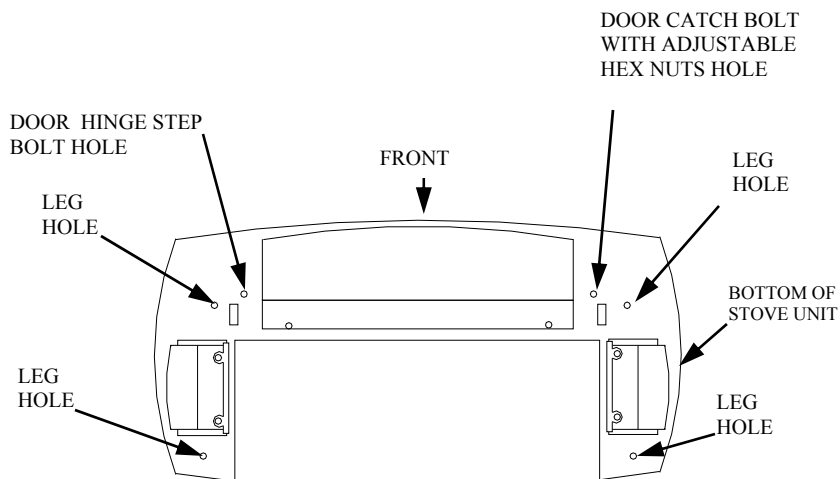
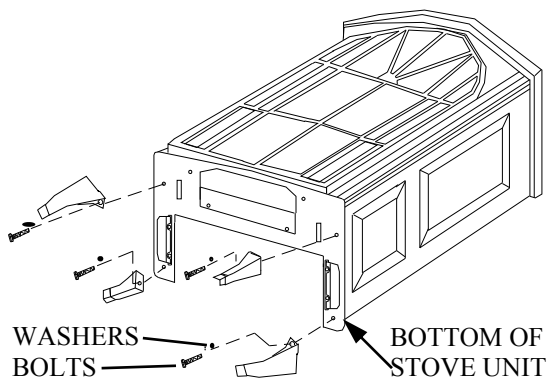
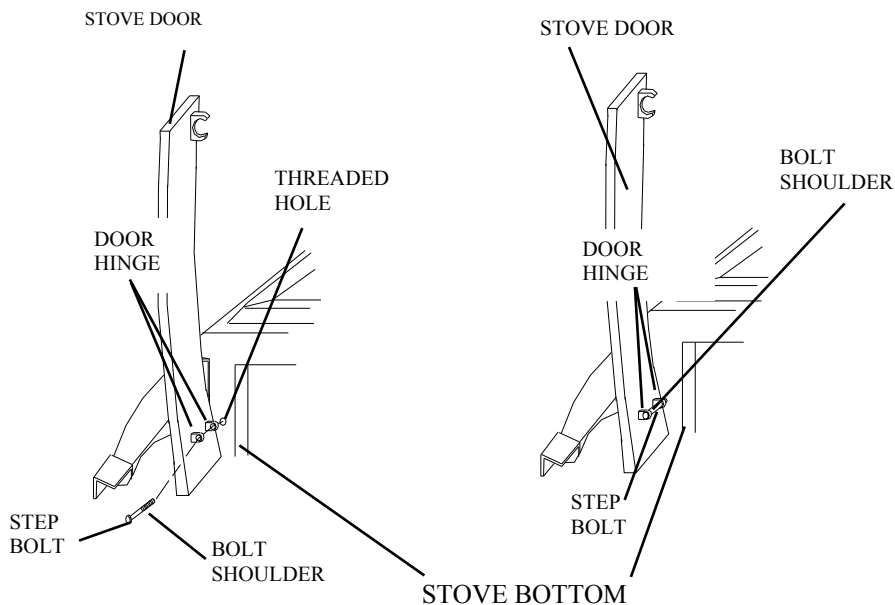
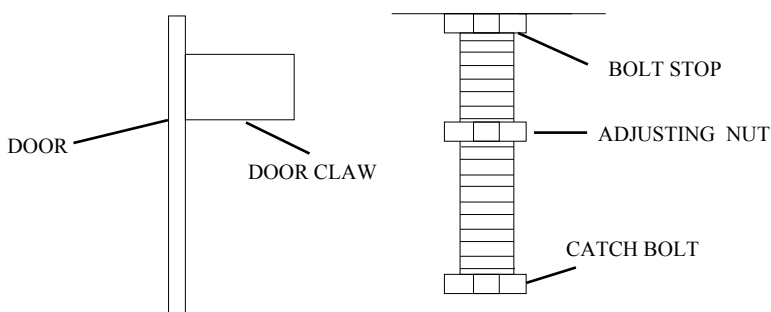

FIGURE 8 - LOCATING THREADED HOLES FOR STOVE BOTTOM, LEGS
Figure 9– Attaching Stove Legs
Figure 10-Attaching Lower Stove Door Panel
FIGURE 11 - CATCH BOLT AND DOOR CLAW ORIENTATION
8. Fasten each leg to stove with four (4) M8 x 1.25 - 20 mm bolts. Use a flat washer and lock washer with each bolt. Tighten bolts into threaded holes on stove body (see Figure 8 and Figure 9). Return stove to upright position.
9. Attach stove door by inserting step bolt through door hinge pivot hole and into threaded hole in stove body (see Figure 8 and Figure 10). Use an adjustable wrench or a 12mm socket to fasten step bolt. Tighten step bolt until snug. Make sure door moves freely.
10. Install door catch bolt (M8 x 1.25-55mm with two M8 hex nuts) into threaded hole on stove body (see Figures 8 and 10). Use an adjustable wrench or a 12mm socket. The catch bolt has two hex nuts attached to it (see Figure 11). The top nut is a bolt stop and the bottom nut is for door leveling adjustment.